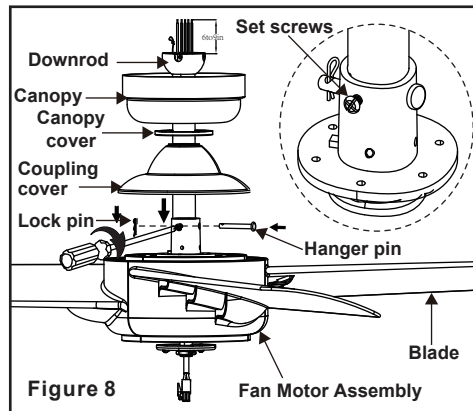

Figure 8
Step 3. Remove the hanger pin, lock pin and set screws from the top of the motor assembly. (Fig. 8)
Step 4. Route the wires exiting from the top of the fan motor through the coupling cover, canopy cover and canopy and then through the ball / downrod. (Fig. 8)
Step 5. Align the holes at the bottom of the downrod with the holes in the collar on top of the motor housing (Fig. 8). Carefully insert the hanger pin through the holes in the collar and downrod. Be careful not to jam the pin against the wiring inside the downrod. Insert the locking pin through the hole near the end of the hanger pin until it snaps into its locked position, and tighten set screws as noted in the circle inset of Fig 8. Cut off excess fixture wires leaving approximately 6 to 9 inches above top of hanger ball/downrod assembly.